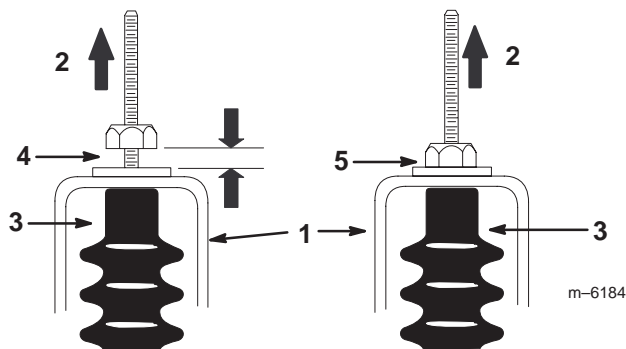

Figure 6
5. Pull up on each shift cable and ensure that there is no gap between the nut/washer and the neutral bracket (Fig. 6). If there is a gap, tighten the nut.